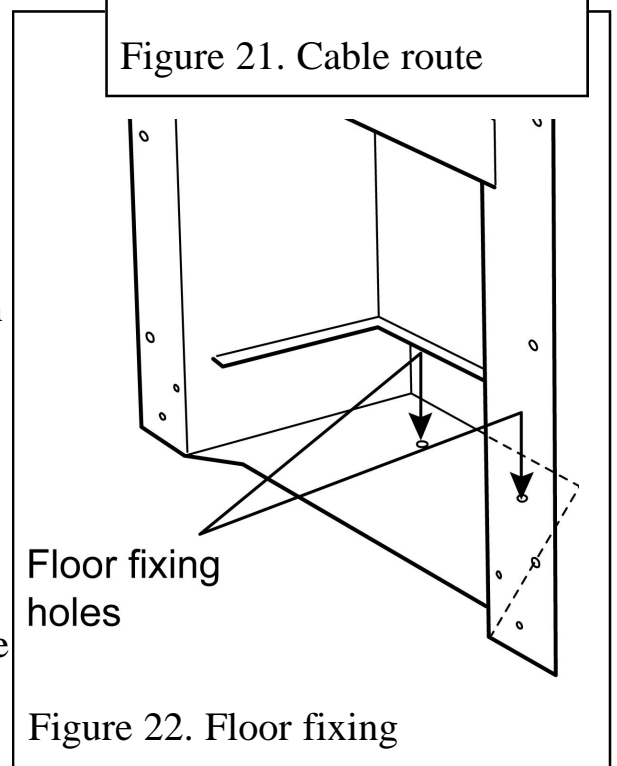

Figure 22. Floor fixing
8. Drill a hole into the fireplace floor through each of the two holes in the base of the hotbox using a no.12 masonry drill (See figure 22).